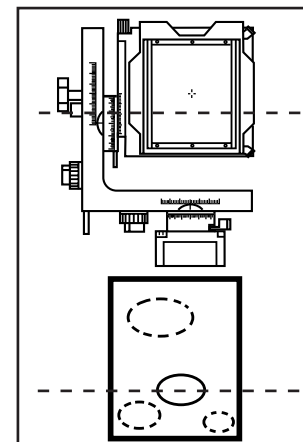

図3 Fig.3
3. The variable axis mechanism can now be employed to raise the ground glass frame by the same 30mm in order to give the same view point as before - the horizontal tilt axis however remains 30mm below the center line of the screen. The tilt correction can now be undertaken remembering that the tilt axis is now situated 30mm below the screen center line. See also millimeters scale at the left hand side of the lower screen half. (fig.3)